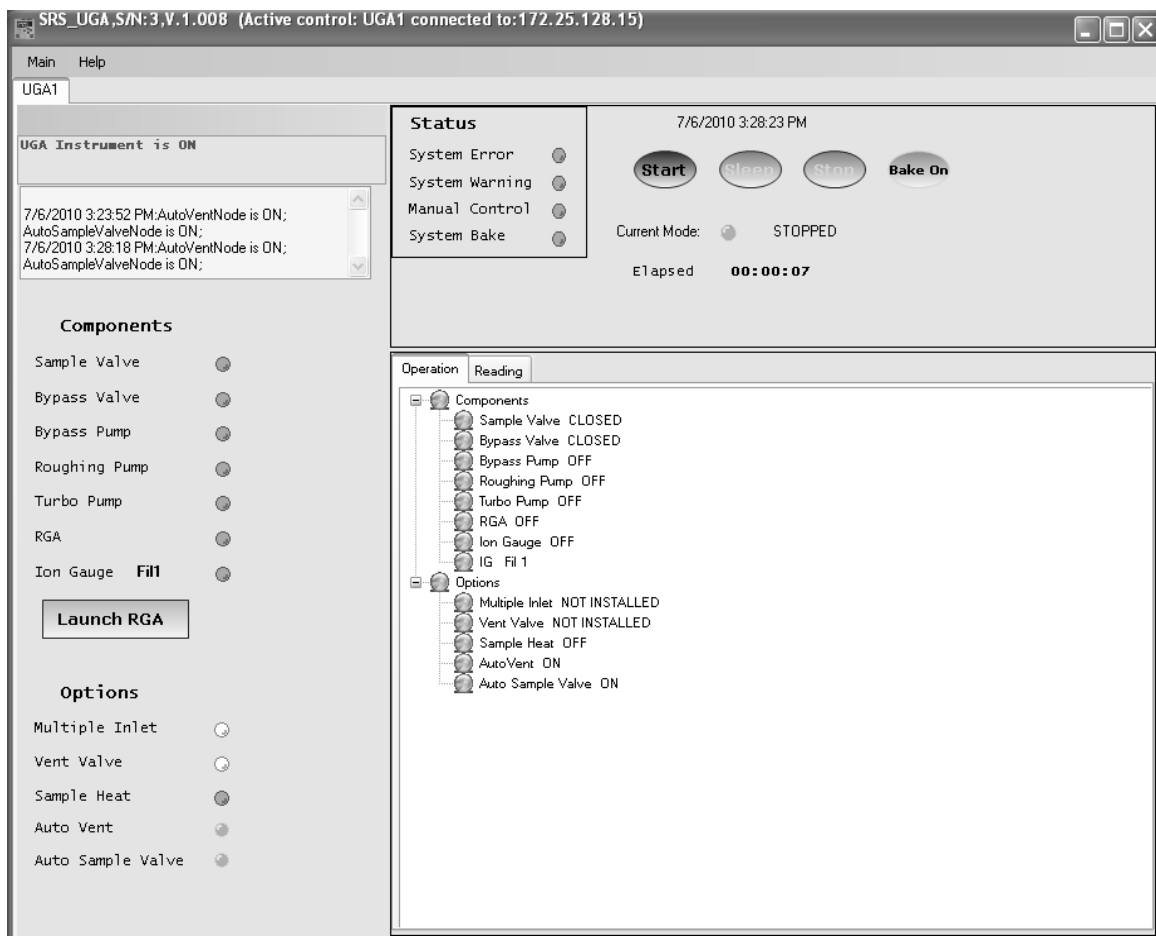

Fig. 2-15. Screenshot of UGA control software after proper TCP/IP Ethernet connection. On the title bar, the connection status is shown.
- The program shows the complete present state. Fig. 2-15 shows that the Multiple inlet is installed in this Unit and the position is at #12 channel. The unit is stopped, which is the Off state, etc.
The UGA control program is Windows based software written in the C# language using .NET framework. The main user interface window is composed of several areas - Title bar, Menu bar, Message sub-window, Log sub-window, etc as seen in Fig. 2-15. In this section, the menus and displays of the program are described in detail.